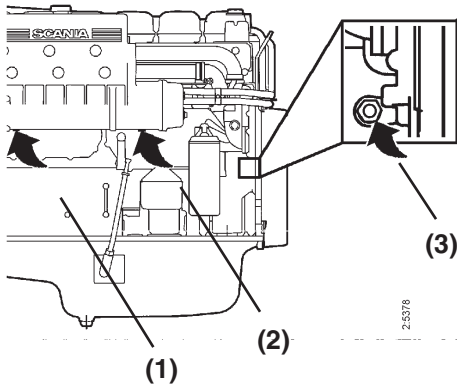

Figure 19
- from the two drain taps on the lower right side of the block (**Figure 19, (2)**)
- from the drain tap (**Figure 19, (1)**) located on the lower left side of the block
3. Close the drain taps (Figure 19, (1), (2)) and replace the heat exchanger plugs (if equipped).
4. Fill the coolant recovery tank with coolant through the expansion tank fill hole (Figure 19, (3)). See *Engine Coolant* on page 40 for refilling coolant.